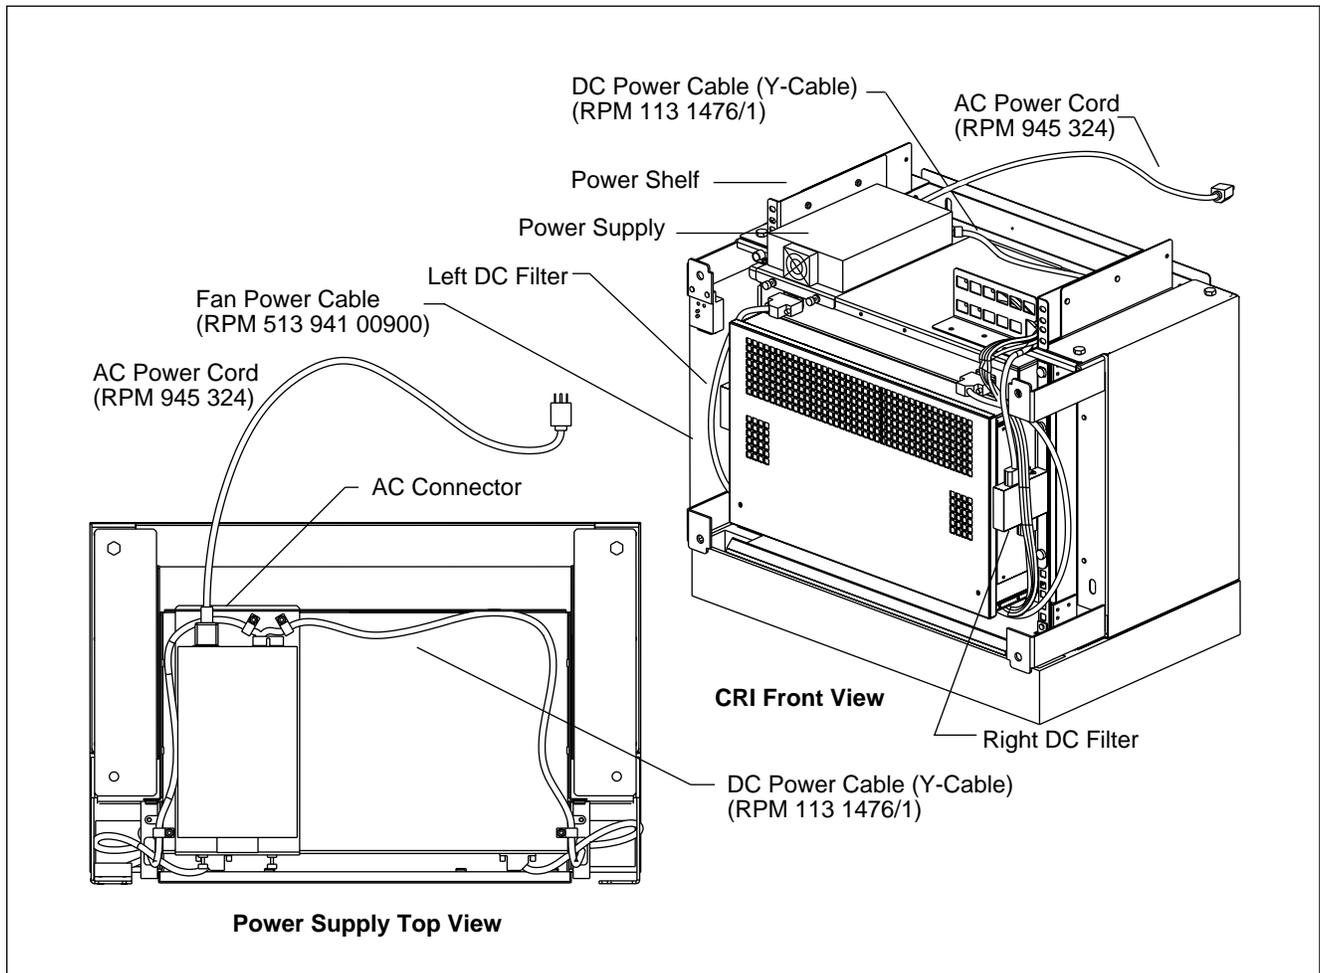

Figure 6-2. CRI Power Supply
6. Disconnect the power cord from the AC connector on the rear panel of the power supply. See the *CRI Top View* illustration in Figure 6-2 on page 6-14.
7. Disconnect the DC power cable (RPM 113 1476) from the power supply. See the *CRI Top View* illustration in Figure 6-2 on page 6-14.
12. Reconnect the AC power cord (RPM 945 324) to the AC connector on the rear panel of the power supply. See Figure 6-2 on page 6-14.
13. Reconnect the DC power cable (RPM 113 1476) to the new power supply. See Figure 6-2 on page 6-14.